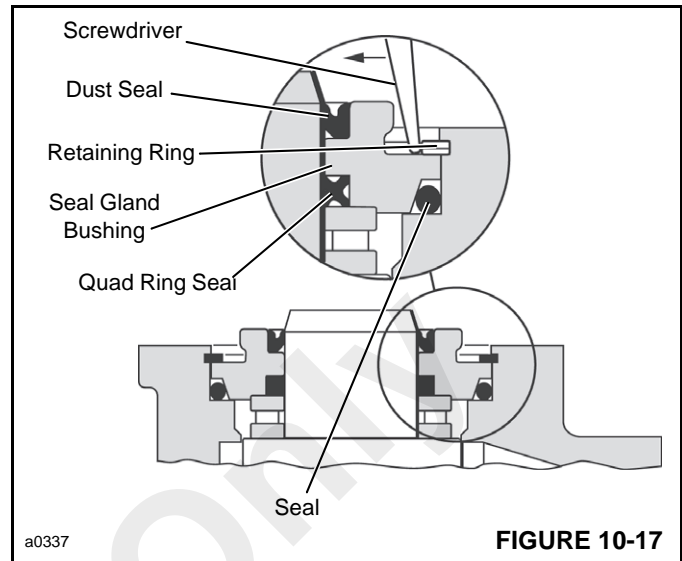

FIGURE 10-17
13. Install needle bearing kit (6).
14. Install dust seal (1) into seal gland bushing (3). Flat or smooth side of the dust seal must face down towards the bushing. See Figure 10-17.
15. Install quad ring seal (5, Figure 10-8) into seal gland bushing (3). Smooth seal in place with your finger. Do not use any seal that falls freely into the pocket of the bushing. See Figure 10-17.
17. Install retaining ring (2, Figure 10-8) in the housing (see Figure 10-17). After installing the retainer ring, tap on ring end or pry with a screwdriver around entire circumference of the ring to properly seat the ring in the groove.